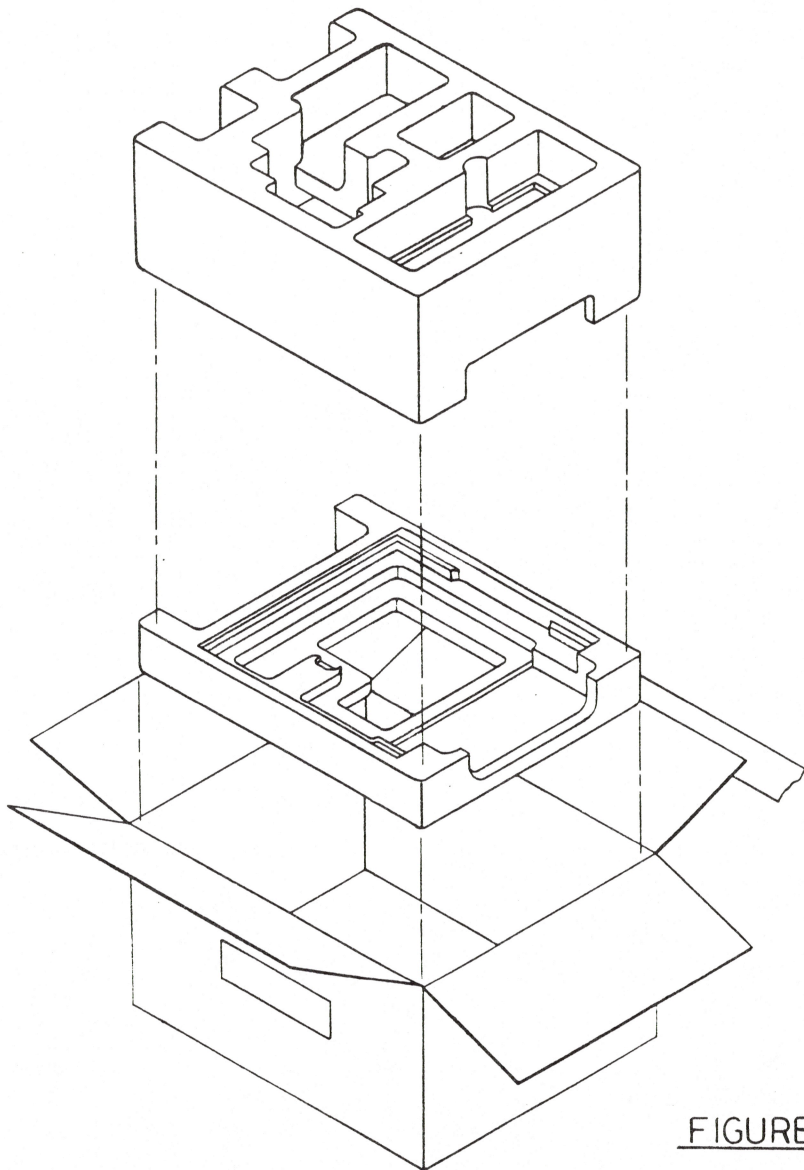

FIGURE 5
**SERIES "H" MONITORS - PACKAGING (Figure 5)**